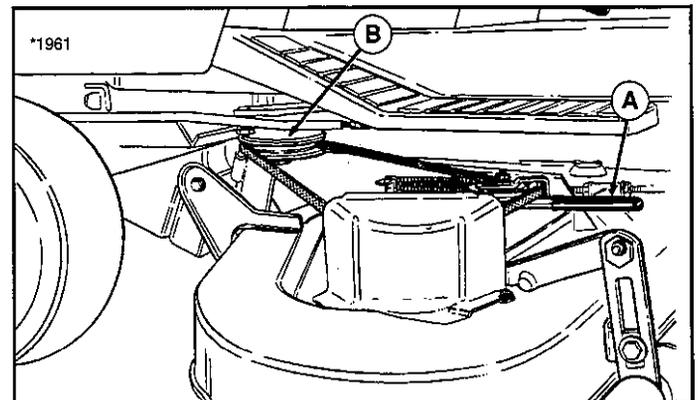

Figure 13. Removing & Installing Belt
5. See Figure 13. Move idler arm (A) to relieve belt tension. Install belt onto the PTO pulley (B).